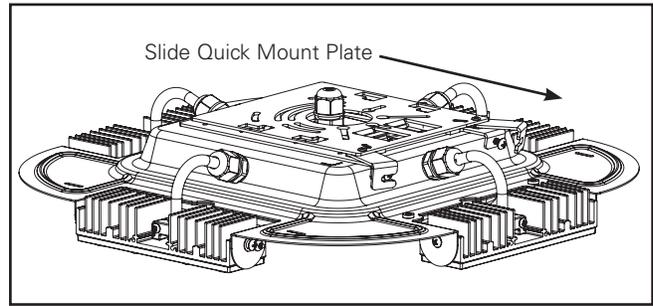

Figure 2.
2. Slide quick mount plate forward until the plate disengages from the housing. (Figure 2.)